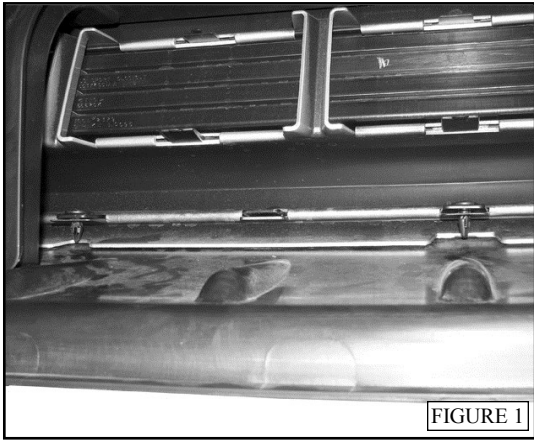

FIGURE 1
- Remove the bottom splash guard from the front bumper by removing the screws and push-clips at the top edge of the splash guard. Some vehicles will have two rivets at the outer edges of the splash guard. Drill with a 1/4" drill bit to remove. (FIGURE 1)